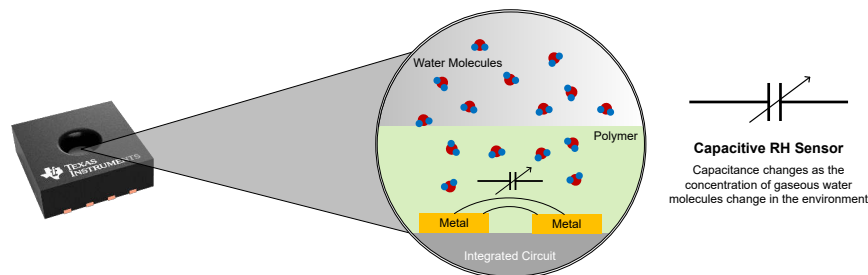
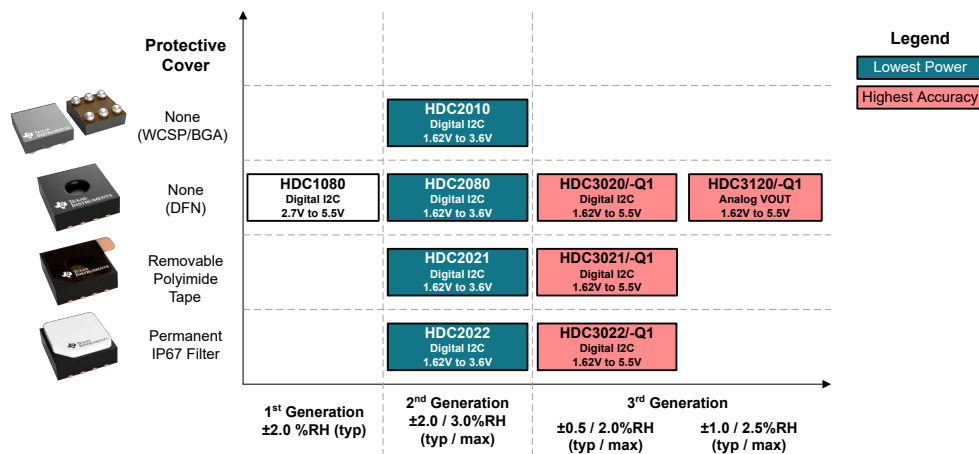

Figure 1. Simplified Construction of Capacitive RH Sensors
Figure 2. Featured Humidity Sensors
Relative Humidity (RH) sensors play a critical role in modern systems where precise environmental sensing underpins performance, safety, and longevity. These sensors measure the presence of water vapor in the air to provide host systems critical information regarding the ambient conditions. As industries incorporate more technologies to safeguard equipment, humidity sensing has become foundational across diverse applications—ensuring optimal thermal balance in data centers, safeguarding machinery in industrial automation, protecting sensitive battery systems in electric vehicles, and enabling resilient smart infrastructure. This product overview aims to provide an informative overview of TI's current portfolio of humidity sensors. All TI RH sensors include an integrated temperature sensing and heater element. Figure 1 illustrates a simplified construction of TI's capacitive RH sensors, while Figure 2 provides an overview of all featured RH sensor's in TI's portfolio.